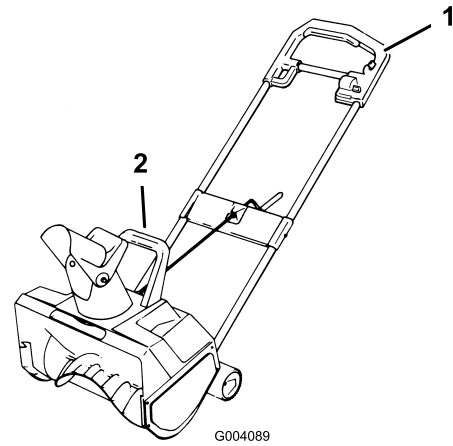

Figure 10
- To shave down large banks of snow, lift the snowthrower by the primary and secondary handles (Figure 10) and place the snowthrower on the bank. Let the weight of the snowthrower shave down the bank in a back-and-forth motion.